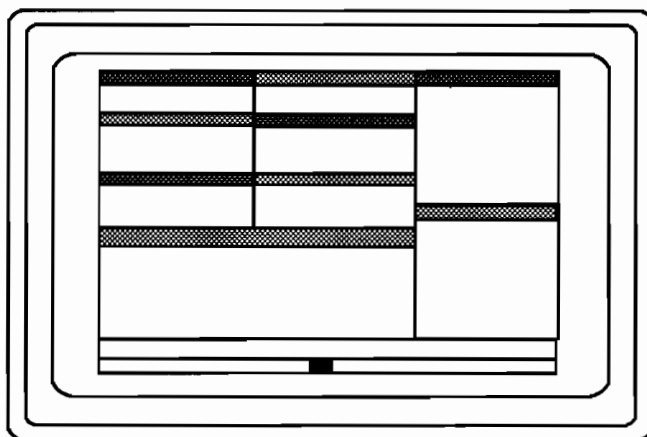

Figure 7-5. Multiple Window Display
4. Your screen now displays multiple windows as concurrent tests run (see Figure 7-5).